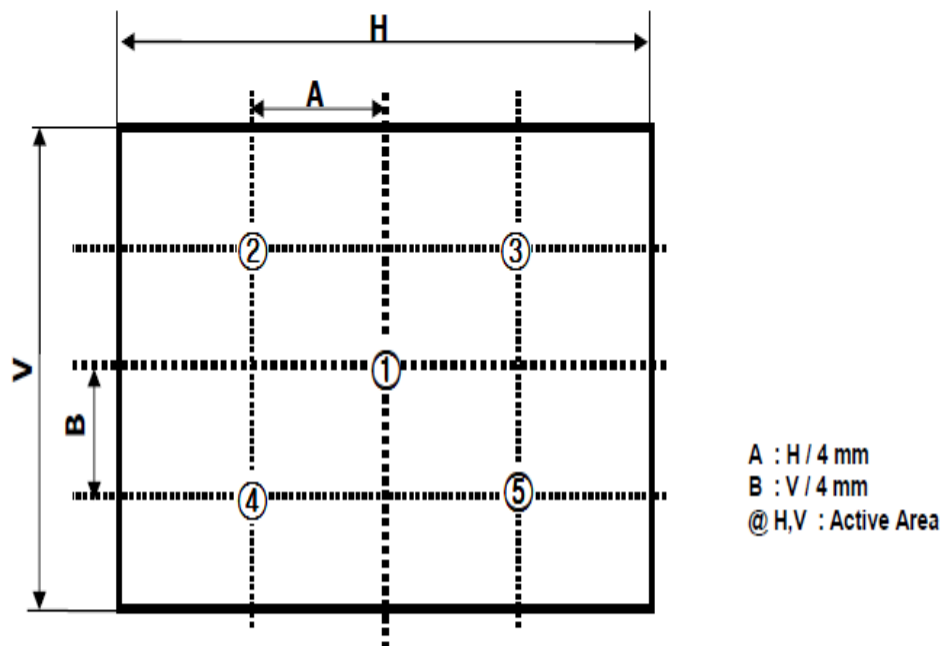

FIG. 2 5 Points for Luminance Measure
2. Surface luminance are determined after the unit has been 'ON'and 1Hourafterlighting the backlight in a dark environmentat  $25 \pm 2^\circ C$ . Surface luminance is the luminance value at center 1-point across the LCD surface 50cm from the surface with all pixels displaying white.For more information see the FIG. 2.